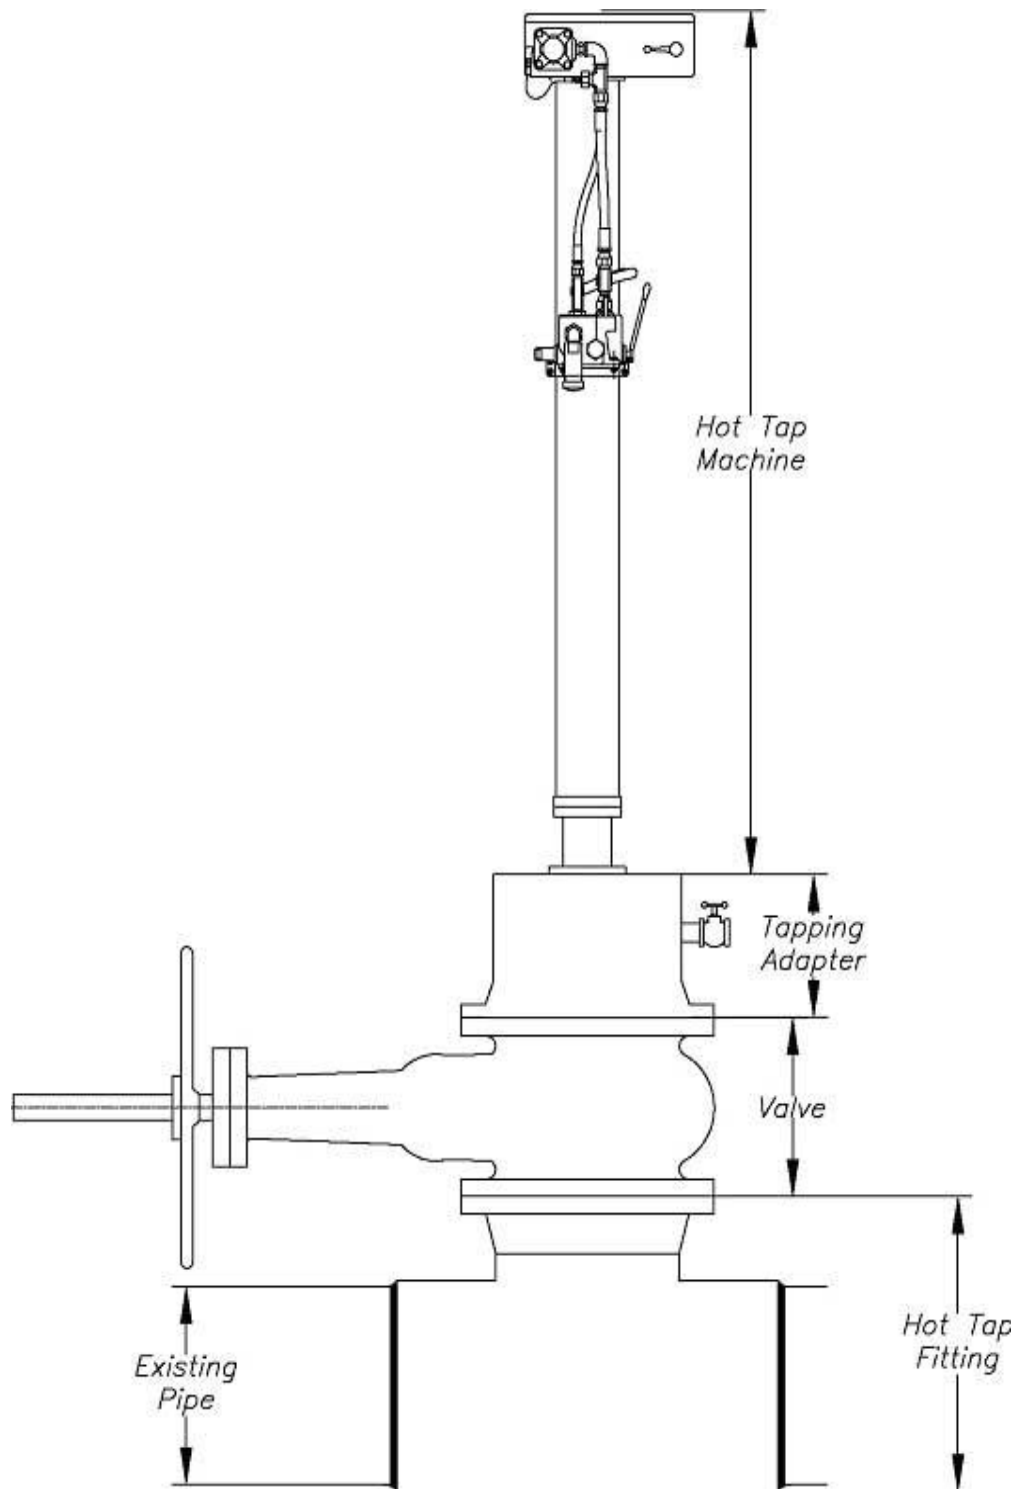
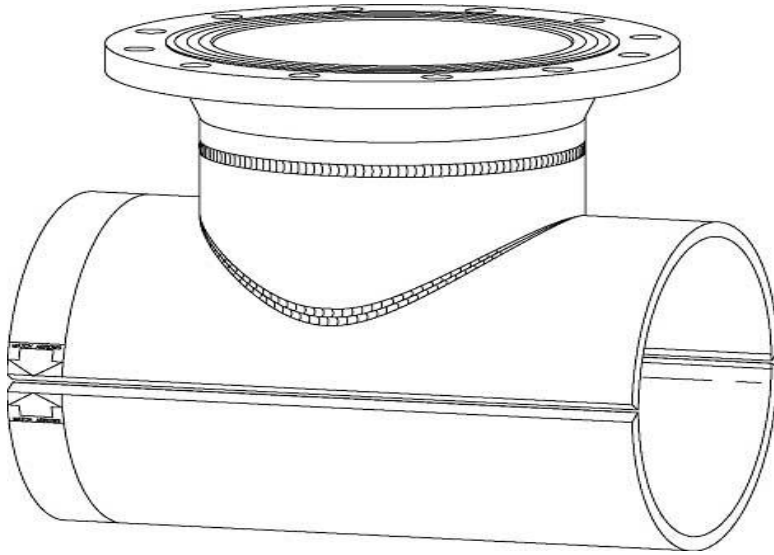

Figure 1, Hot Tap Stackup
Figure 6, Typical Full Encirclement Hot Tap Fitting, with flange.
For a simple hot tap, there are three major components necessary to safely tap into a pipe, the fitting, the valve, and the hot tap machine (which includes the cutter, and housing). The fitting is attached to the pipe, normally by welding. In many cases, the fitting is a full encirclement split tee, with a flanged outlet (See Figure 6). Onto this fitting, a valve is attached, and the hot tap machine is attached to the valve (see FIGURE 1). For hot taps, new studs, nuts, and a new valve should always be used, as the studs, nuts, and valve will become part of the permanent facilities and equipment. The fitting/valve combination, is attached to the pipe, and is normally pressure tested by the site owner. The pressure test is very important, so as to make sure that there are no structural problems with the fitting, and so that there are no leaks in the welds (it makes no sense to cut a hole in a perfectly good pipe, and to create a "new" leak in the system).
There are many different considerations on selecting hot tap and line stop fittings, the simplest form of a hot tap fitting, is a simple flanged nozzle, which is welded to the pipe. Keep in mind that there are serious engineering considerations as to what should be put onto the pipe, for example, even a simple small hot tap on a large pipe (cutting a two (2) inch hole in a twelve (12) inch line for example), removes some of the run pipe, resulting in a loss of cross sectional area, plus adding stress concentrations to the equation. It is always necessary to perform an engineering evaluation of the system, so as to determine the correct type of fitting, so as to prevent pipe failure, during, or after the cut. As a minimum, an area replacement calculation should be run, in accordance with applicable code standards, so as to assure that the pipe is sufficiently reinforced by the fitting, prior to cutting a hole in the pipe. Common weld-o-lets, are sized, so as to provide enough material, so that allowable pipe stresses are not exceeded as a result of the hot tap. For many applications, it is necessary to use a full encirclement fitting, such as is illustrated in Figure 6.